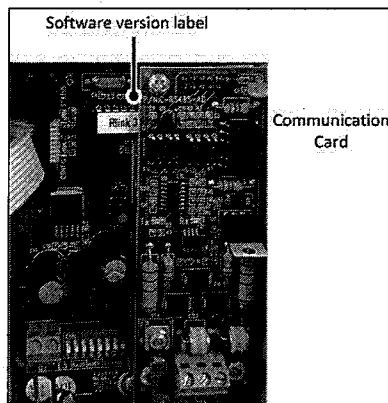

Figure 2: RLINK Software Version
- **Software:** All RLINK units **must** have the same software version (see Figure 2).